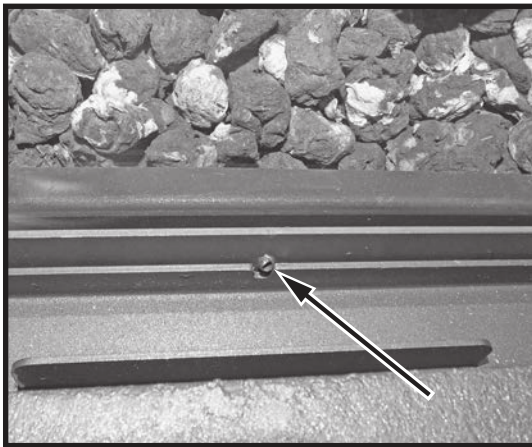

Figure 54: Glass panel position tab.
2. Align the glass door frame laterally so that its protruding positioning stud (Figure 54) fits into the slot in the firebox. This will line up the bolt slots at the top of the glass door frame to the firebox frame.